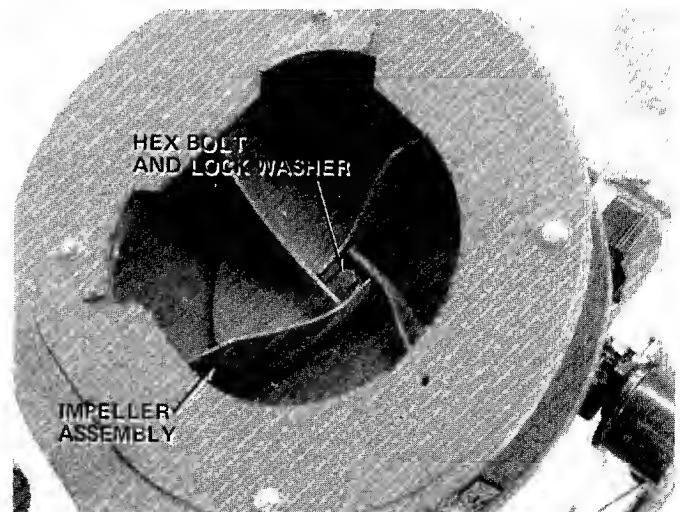

FIGURE 16.
2. Remove hex bolt and lock washer from center of impeller. See figure 16. A 9/16" socket wrench with extension is needed.